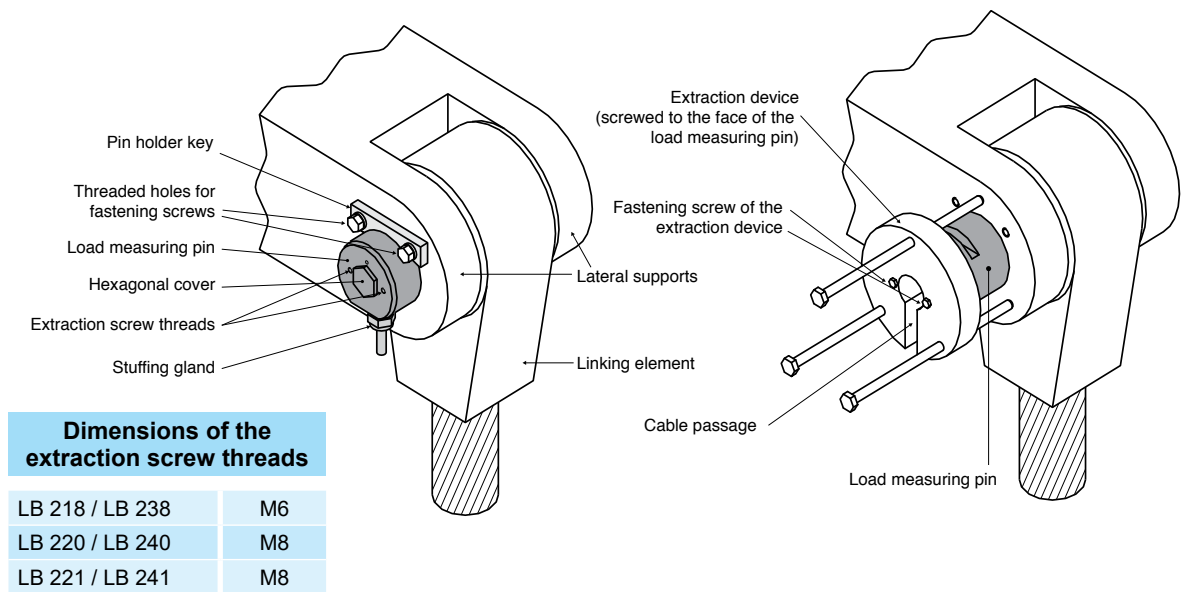
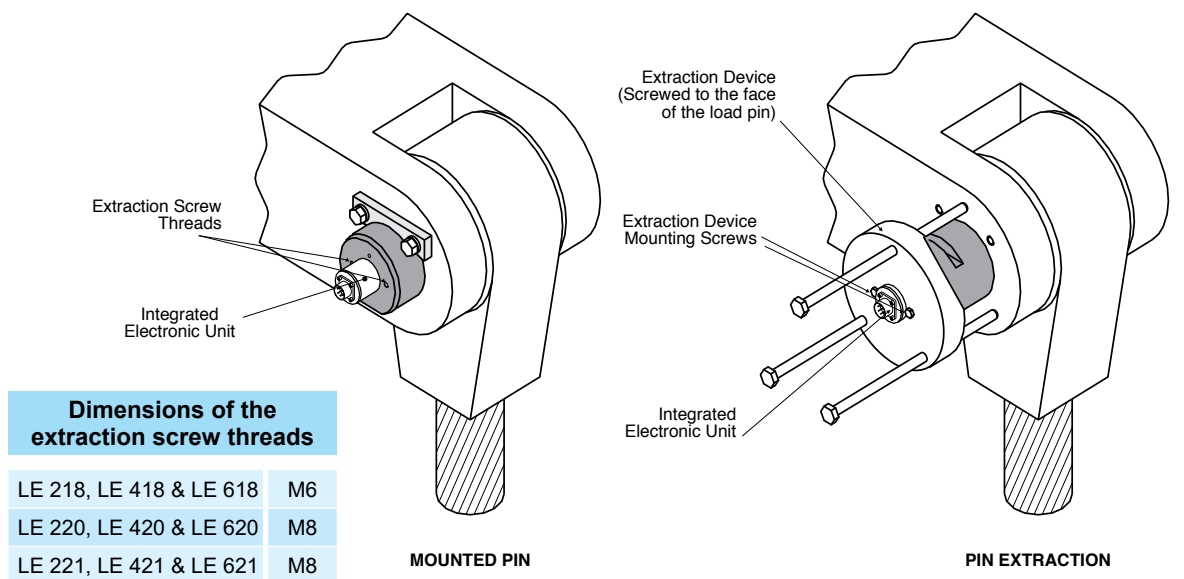

Fig.2-5 Pulling out a LB Series Load Measuring Pin by means of an extraction device
Fig.2-6 Pulling out a load measuring pin by means of an extraction device (principle used with LE 218, LE 418 & 618, LE 221, LE 421 & 621 Series Load Pins)
9. Load measuring pins LB/LE 218 - 221, LB 238 - 241, LE 418 - 421 & LE 618 - 621 are fitted with two extraction screw threads at each end (see Fig.2-5 & Fig.2-6) which should be used to fix the extraction device.
Use this thread to fix an extraction device (not provided by MAGTROL, see Fig.2-5). We recommend fixing it on the same side as the stuffing gland (LB 210, LE 400 and LE 600 series load pins with integrated cable) or the electric connector (LB 230, LE 200, LE 400 and LE 600 series load pin with connector) to avoid their damage if the pin is pulled out on the opposite end (see Fig.2-5).